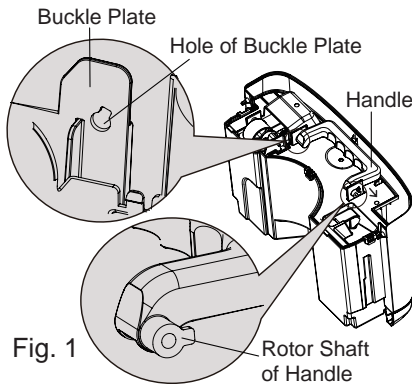

Fig. 1
- (1) Direct the rotor shaft of handle to the hole of buckle plate. Pull the bucket plate at the handle side by following the arrow direction. Remove the handle. (shown in Fig.1)